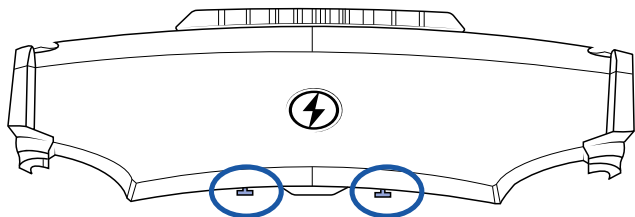

Figure 13 - Location of hood latches
1. Stand in front of the vehicle and locate the release latches (**Figure 13**) on each side of the front of the hood.